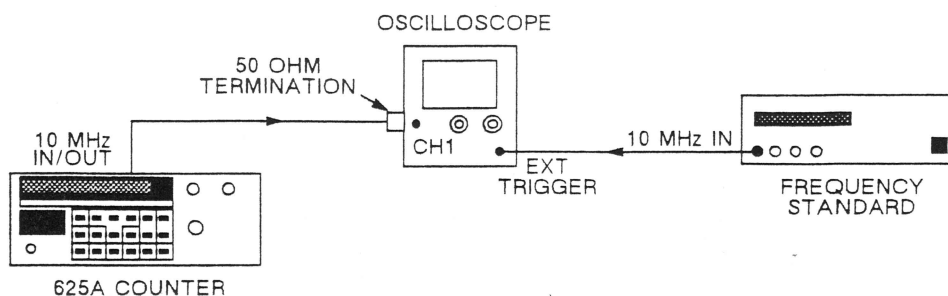

Figure 7-3. Time Base Calibration Setup for Operation at 25° C.
2. Set up the equipment as shown in Figure 7-3 and as described below.